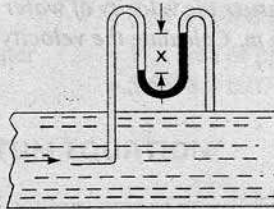

Fig. 6.16
3. Pitot-tube and vertical piezometer tube connected with a differential U-tube manometer as shown in Fig. 6.16.